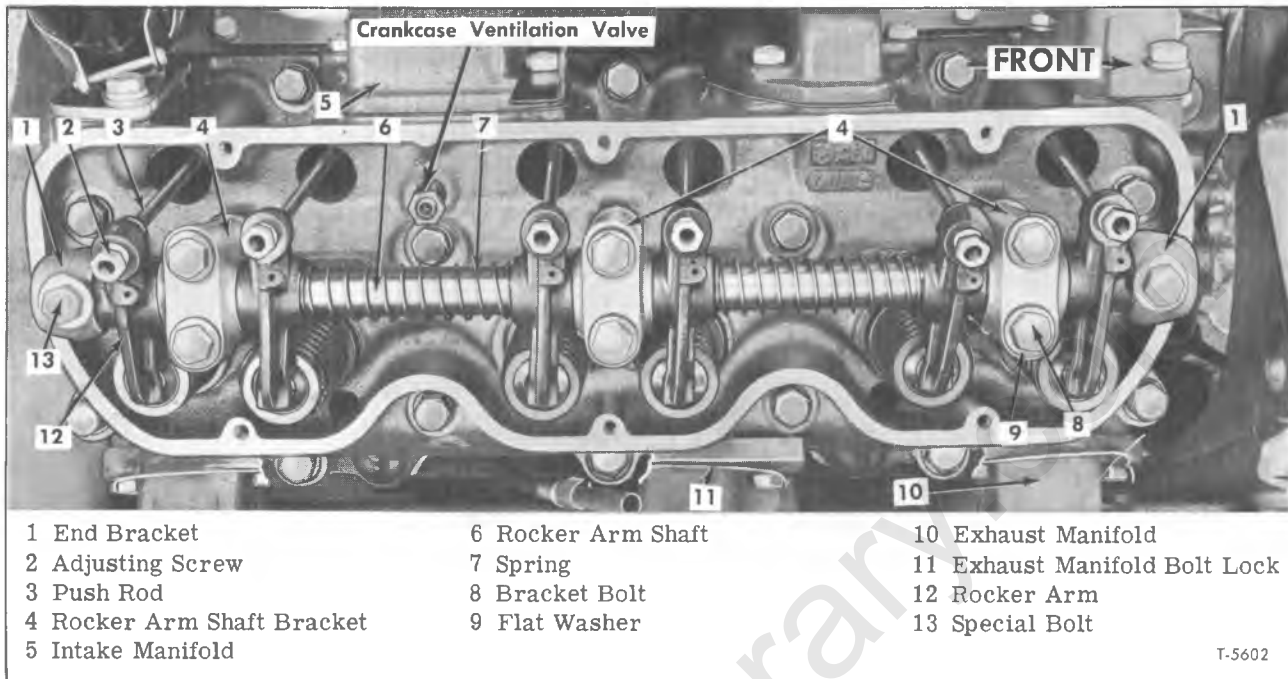

Figure 31—Valve Rocker Arms and Shaft Installed
2. Place push rods in original positions, then place rocker arm shaft and bracket assembly (fig. 31) on cylinder head, being careful to engage rocker arm screws with sockets in push rods. Tighten bracket bolts to 20 to 25 foot-pounds torque.
NOTE: Inspect crankcase ventilation valve (fig. 31) and clean or replace as necessary.
2. Set cylinder head in place on gasket with dowels in block engaged with mating holes in cylinder head. Install cylinder head bolts and draw head down gradually. Finally, tighten cylinder head bolts in sequence shown in figure 15. Use final torque of 60 to 65 foot-pounds in tightening cylinder head bolts. A crankcase ventilation valve (fig. 31) must be in place in each cylinder head.
5. Lubricate push rods, and position at valve lifters in original locations. Set valve rocker arm assembly (fig. 31) on cylinder head and bolt in place following instructions previously given under "Valve Rocker Arms, Shaft, and Push Rod Replacement."